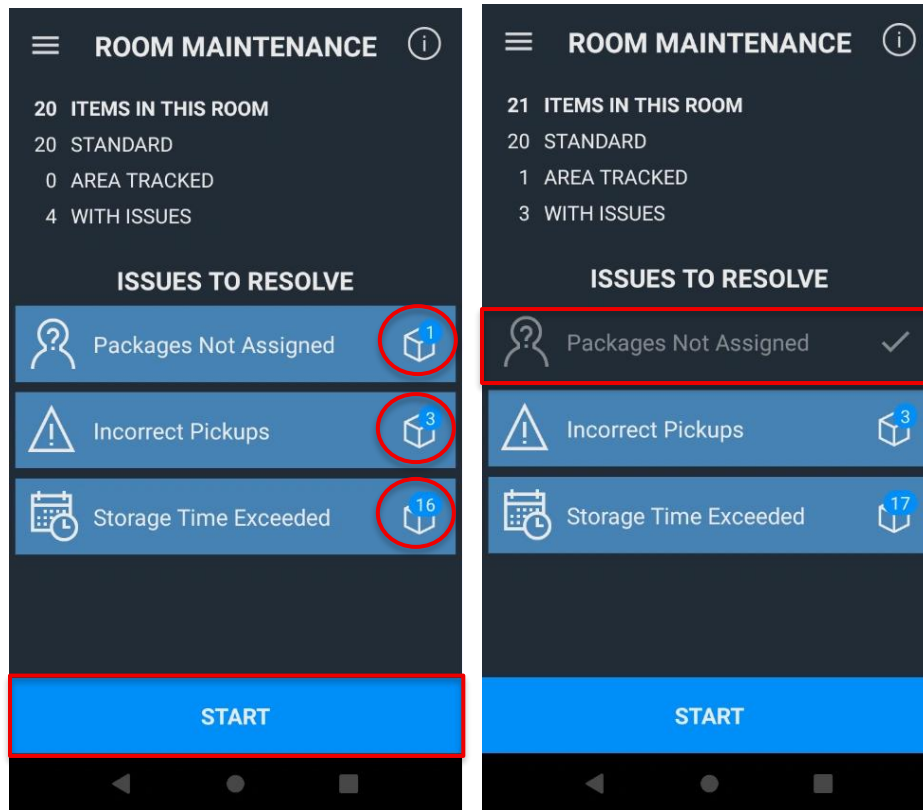

Figure 45: Two examples – With issues (left) and no issues for Packages Not Assigned (right)
The MobileKiosk displays the Room Maintenance screen with the number of issues for “Packages Not Assigned,” “Incorrect Pickups,” and “Storage Time Exceeded”. If there are no issues, the item will be grayed out and a checkmark appears. See Figure 45.
5. Tap the **Start** button to begin room maintenance. See Figure 45.